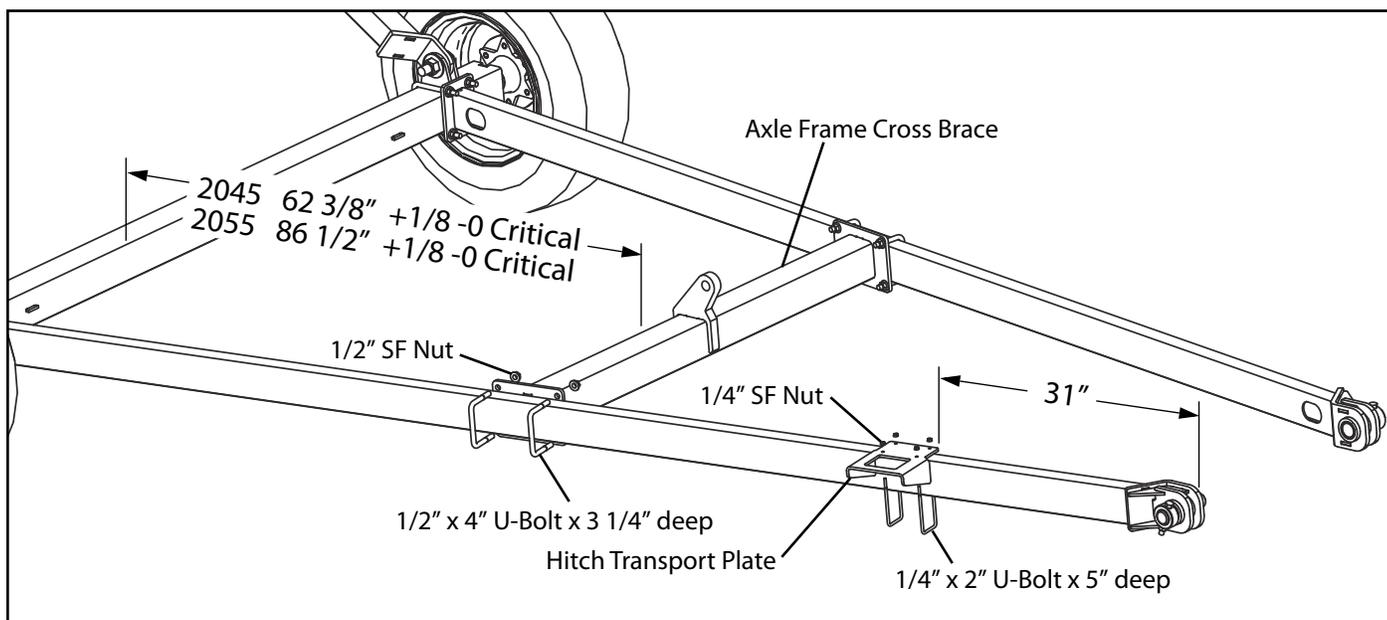

**FIG. 3-22. Routing the Winch Cable (viewed from under Conveyor tube)**
40. Bolt the factory looped end the Lift Cable to the frame. See Fig 3-22.